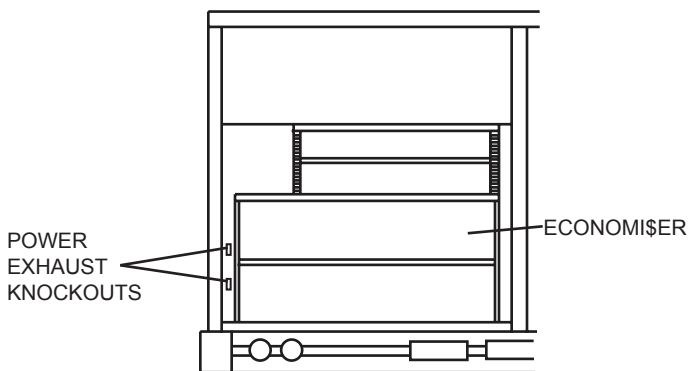

Figure 2 - Power Exhaust Knockout Location
2. Remove the power exhaust knockout plugs located on the lower left side of the EconoMiSer. (See Fig. 2.)
2. Insert the 2-wire low voltage harness plug from the power exhaust into the top knockout on the EconoMiSer. (See Fig. 2.)
6. Insert the high voltage harness plug from the power exhaust into the bottom knockout on the EconoMiSer. (See Figs. 2 and 4.)
2. Insert the 2-wire low voltage harness plug from the power exhaust into the top knockout on the EconoMiSer2. (See Fig. 2 and 9.)
6. Insert the high voltage harness plug from the power exhaust into the bottom knockout on the EconoMiSer2. (See Fig. 2 and 9.)